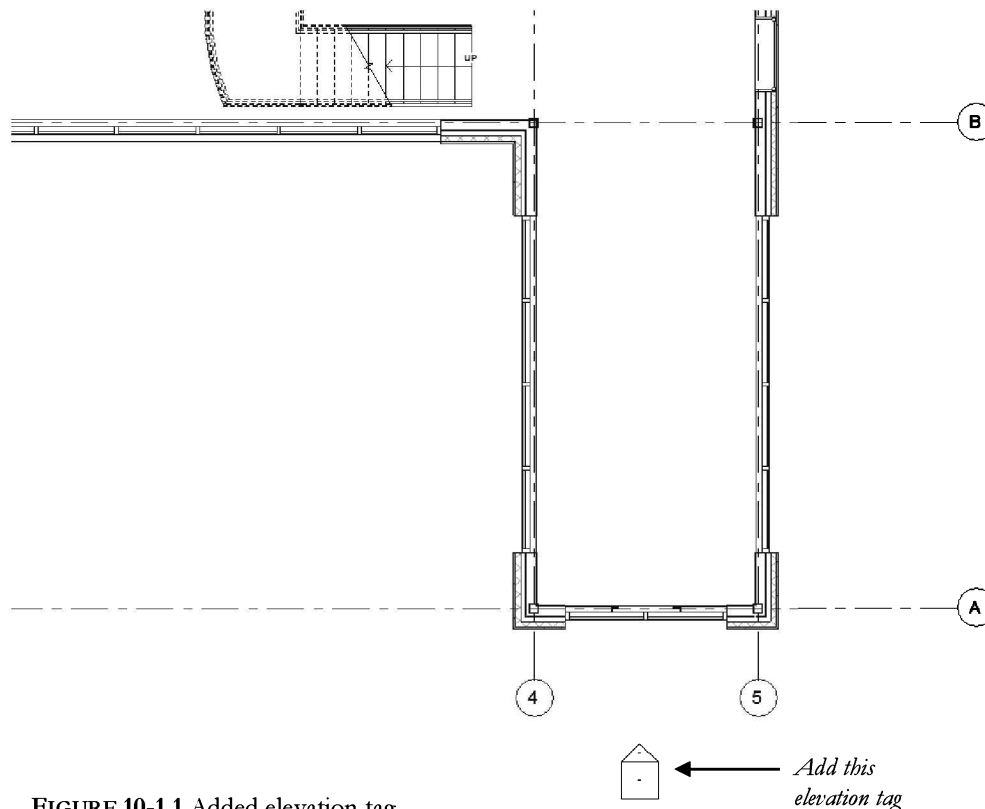

FIGURE 10-1.1 Added elevation tag
4. Make sure the *Type Selector* is set to *Elevation: Building Elevation* and then place the elevation tag in plan view as shown in Figure 10-1.1.